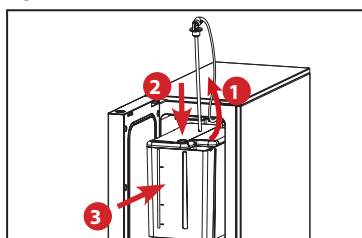

Fig.12
12. When cleaning is complete, as indicated on the coffee dispenser's display, pull the milk suction tube out of the smaller sized part of the milk container (located at right-hand side) and insert it back into the milk tank lid. Refill the tank with fresh milk and slide it back into the fridge and close and lock the door (See Fig.12).
12. Press START to begin the cleaning (See Fig.12).
12. Slide the tank back into the fridge, leave the fridge door open during cleaning to prevent steam build-up in the cooling area (See Fig.12).
11. Slide the tank back into the fridge, leave the fridge door open during cleaning to prevent steam build-up in the cooling area (See Fig.12).